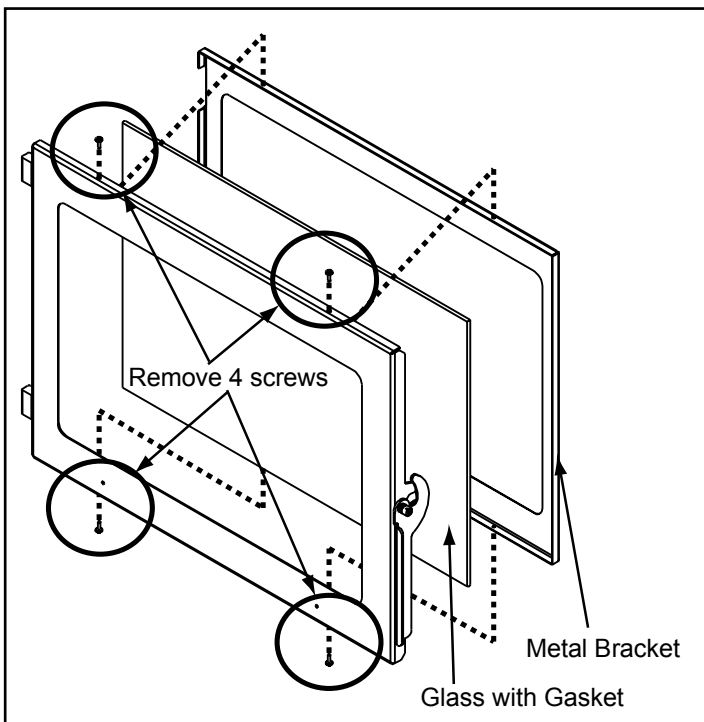

Figure 49.1
2. Using a Phillips head screwdriver, remove 4 screws, 2 on the top and 2 on the bottom. **Figure 49.1.**